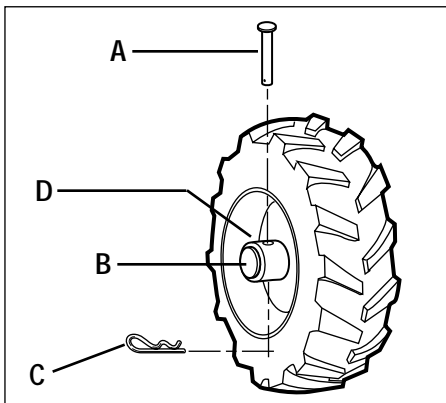

Figure 3-2: WHEEL DRIVE position.
Each wheel is equipped with a Wheel Drive Pin (A, Figures 3-2 and 3-3) that secures the wheel to the wheel shaft (B). The wheels can be positioned in either a WHEEL DRIVE or a FREEWHEEL mode.
3. Remove the wheel drive pin (A, Figures 3-2 and 3-3) by removing the hairpin cotter (C).
4. FOR WHEEL DRIVE mode (Figure 3-2): Slide the wheel outward and align the holes in the wheel hub (D, Figure 3-2) and the wheel shaft (B). Insert the wheel drive pin (A) through the wheel hub and the wheel shaft. Secure the wheel drive pin with the hairpin cotter (C) by pushing the hairpin cotter in as far as it will go. Repeat for the other wheel and then remove the support from beneath the transmission.